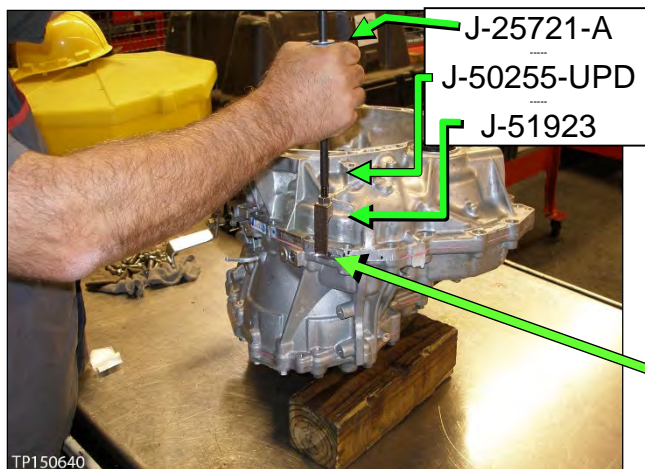
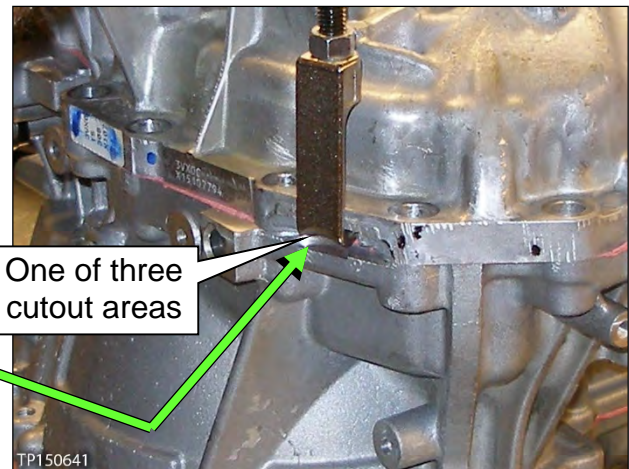

Figure 29
Figure 30
- Use Slide Hammer J-25721-A and Slide Hammer Bolt J-50255-UPD with J-Hook J-51923 at the cut-out areas similar to the one, as shown in Figure 29 and Figure 30.